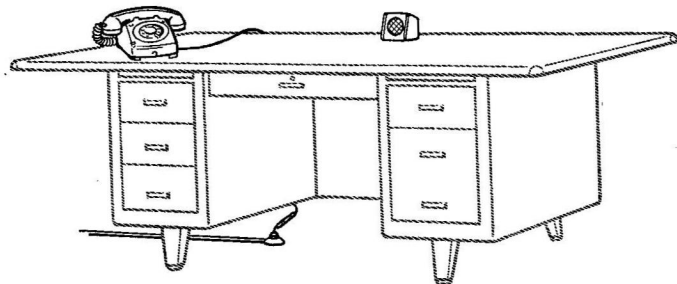

Figure 2. Typical installation.
2.1 Arrangement. Figure 2 shows the telephone and loudspeaker located for normal operation. The telephone may be on the right- or left-hand side of the desk, which ever is more convenient for the subscriber. The telephone must always be a sufficient distance from the loudspeaker to minimize feed-back. Never face the microphone (in the telephone) directly at the loudspeaker.